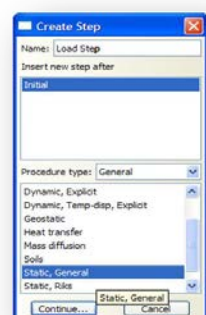

Fig.D1
1. From the main menu bar, select **Step→Create**. The **Create Step** dialogue box will appear (**Fig.D1**). Name the step Load Step.